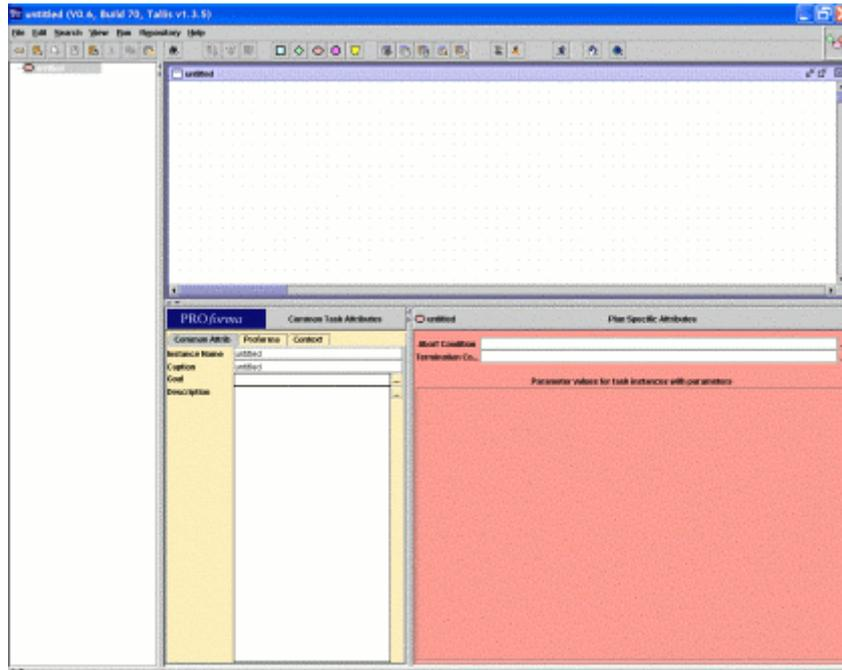

Figure 4: The automatically generated parent plan
1. Select File > New (or click the New button on the toolbar ). This generates a sketch panel that is devoid of tasks. In fact this area represents a PROforma plan – currently called *untitled* – which we will use to contain whatever further tasks we need for our application (See Figure 4).